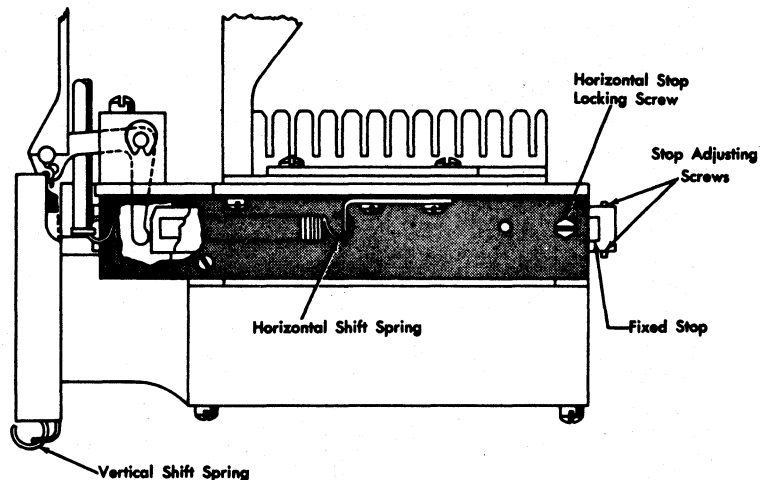

Figure 81. Print Interposer Assembly
1. Loosen stop adjustment locking screws (Figure 81).